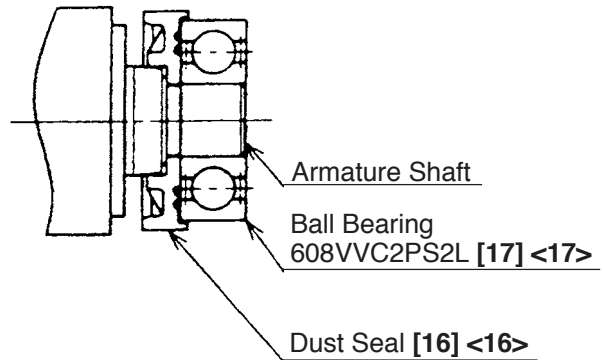

Fig. 9
(1) Generously lubricate the teeth of the Gear [20] <20> and the Pinion [6] <6> with grease. Rub grease onto the teeth with your fingers so that the grease reaches each tooth bottom. Note that under-lubricated Gear [20] <20> and Pinion [6] <6> may wear at a faster rate.
(2) When replacing the Armature [12] <12> and the Ball Bearing 608VVC2PS2L [17] <17> on the commutator side, press inward on the Dust Seal [16] <16> while taking care of its direction until the end face of the Dust Seal [16] <16> hits against the butting surface of the Armature [12] <12> and make sure that the Dust Seal [16] <16> cannot turn freely. (See Fig. 9.)